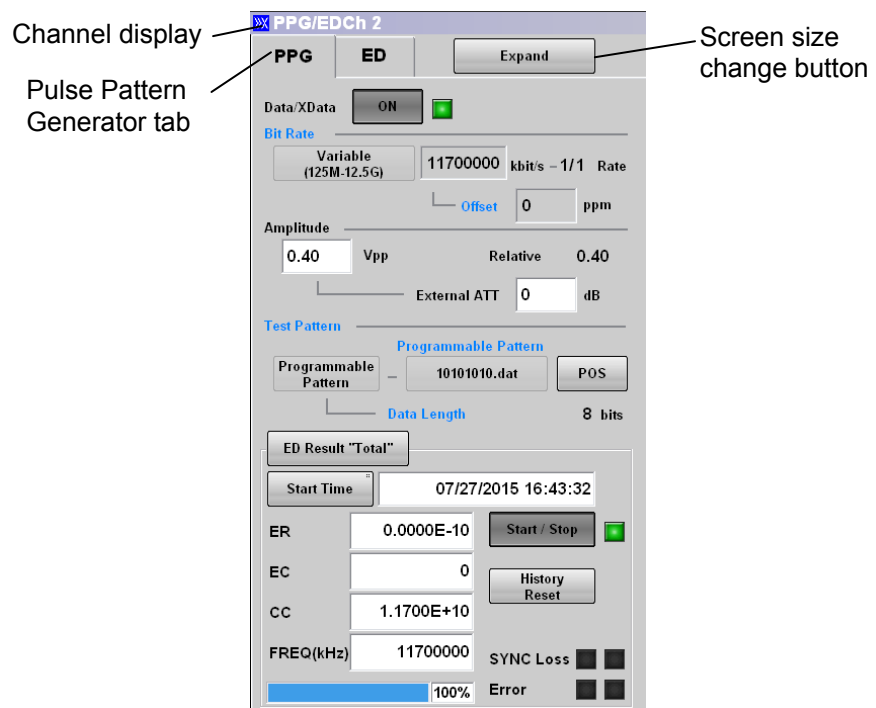

Figure 5.1-1 PPG Setting Panel
2. Touch [PPG], and then Figure 5.1-1 is displayed.
4. Touch [Expand], and then the screen is changed to Figure 5.1-1.
XData in Figure 5.1-1 indicates the  $\overline{\text{Data}}$  Out connector on the front panel.